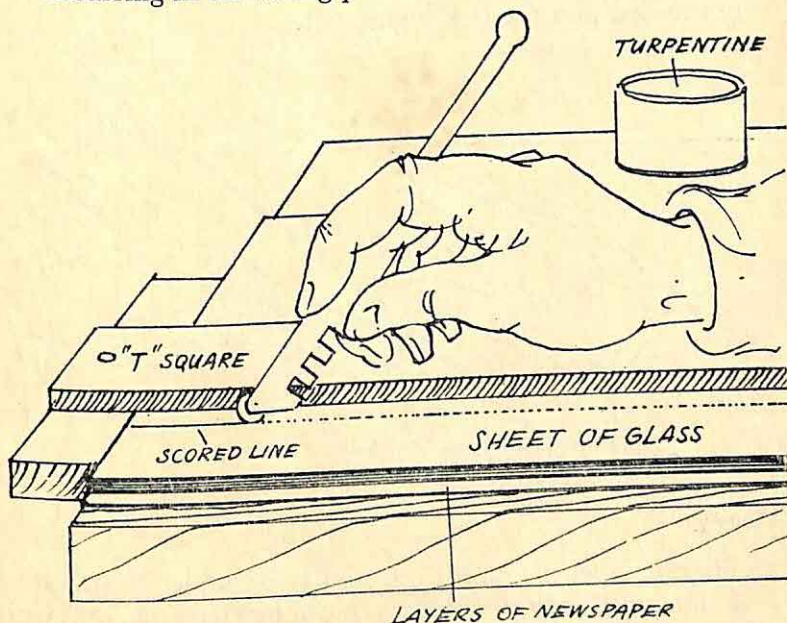

Figure 78
- The scored line must be continuous from edge to edge (see Figure 78).